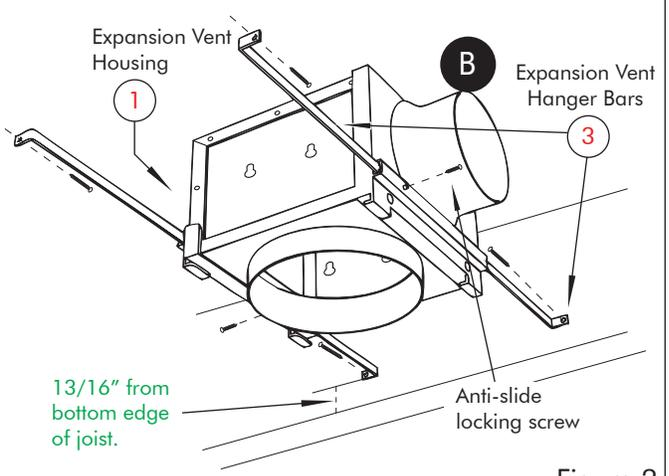

Figure 2
- Attach fan (1) to the mounting bracket (2) with the three 7/16" sheet metal screws (5) provided, making sure the wiring box is positioned for easy access (see figure 2 on page 6). **Note:** Bracket (2) is provided with rubber vibration isolation grommets (3) to prevent the transmission of sound through the structure. Be careful not to overtighten. Also, care should be taken not to strip the plastic housing. Screws (5) are selftapping and do not require pilot holes. However, pilot holes no larger than 3/32" are recommended.
Use the expansion vent hanger bars (3) to suspend the expansion vent housing (1) between ceiling joists. For correct positioning, hanger bars (3) should be positioned 13/16" up from the bottom edge of the ceiling joist. Tighten anti-slide screws to keep hanger bars (3) in place. (see figure 2 on page 10).